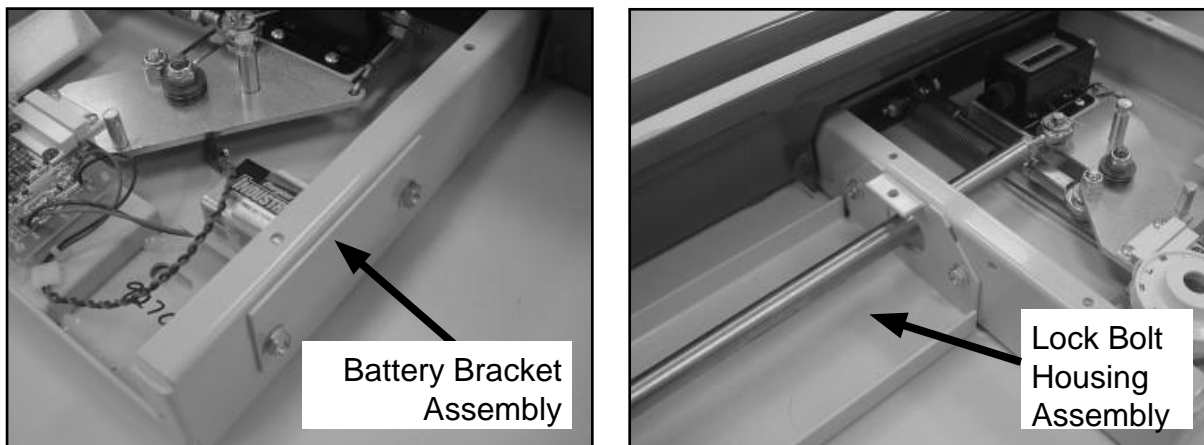

FIGURE A.1
- A-1.** Remove the Battery Bracket Assembly (held on with 2 screws) and the Lock Bolt Housing Assembly (held on with 2 screws). (See Figure A.1)